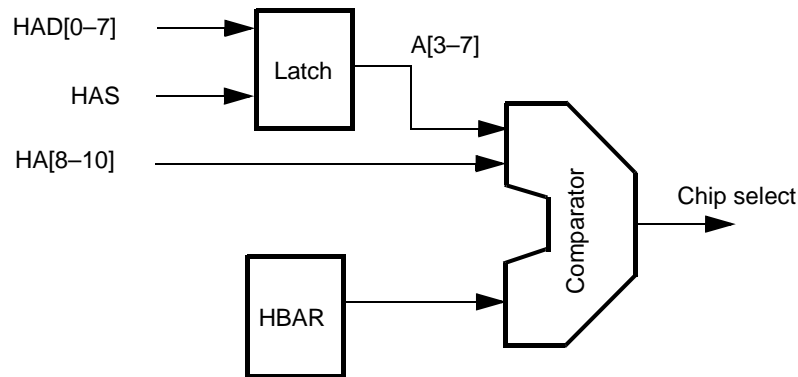

Figure 3. Multiplex Mode Self Chip Select
- Internal chip select logic, represented in **Figure 3**.